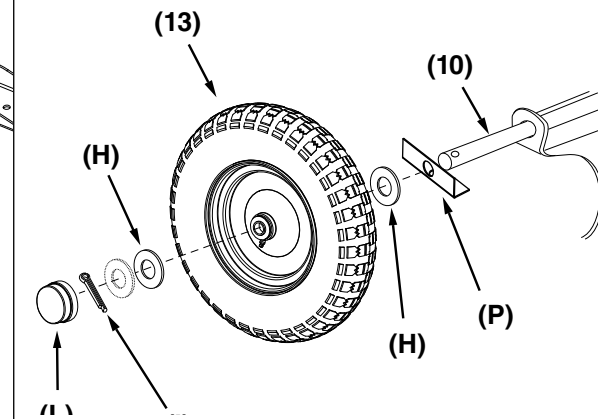

Figure 15
STEP 15 (SEE FIGURE 15): Install onto the axle (10) an axle keeper (P), a 1/4" washer (H), a wheel (13), two 1/4" washers (H), a cotter pin (I) and a hub cap (L). Be sure to spread the ends of the cotter pin to secure the wheel. Repeat for the other side.